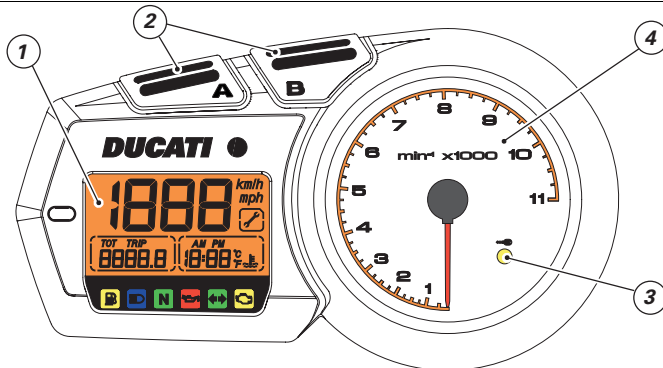

fig. 5
1) **LCD** (see fig. 5).
Press button (**B** fig. 5) with the ignition key **ON**. The display scrolls through the following functions:
Gives distance covered since last resetting. This parameter can be reset at any time by entering the function and pressing button **A** fig. 5 for at least 2 seconds. When the display reaches 9999.9 km (or miles) it resets itself automatically.
The engine control unit transmits the correct vehicle model and unit of measurement information automatically for the instrument panel to display. To force a change of these parameters simultaneously press buttons **(A, fig. 5)** and **(B, fig. 5)** and turn the ignition key from **OFF** to **ON**. The display flashes the motorcycle model and version. Press the button **(B)** to scroll through available configurations. To memorise the selection, press and hold button **(A)** for at least 5 seconds, until the display reads out OFF, then turn the ignition key **OFF**.
*Within 5 seconds of turning the key to ON, each time you press button "B" (2, fig. 5) the brightness will change.*